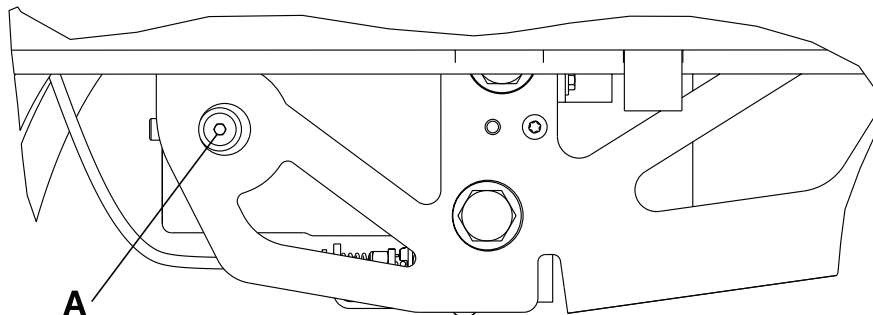

Figure 8: Hydraulic assembly reservoir
3. Using a 3/16" hex wrench, remove the port plug (A). (Figure 8 on page 40).